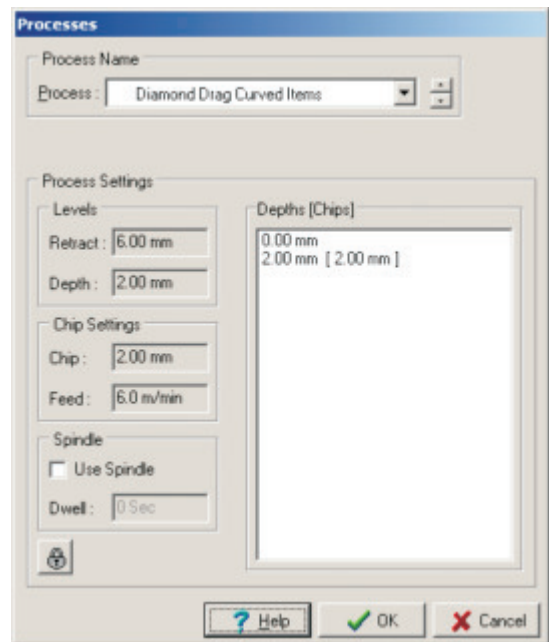

Figure 6
- 6 You are now ready to engrave your Tankard., Left Click On "Production" on the "Main Menu". The select "Engrave", you will now have the Processes Dialogue Box. on the screen, select Diamond Drag Curved Items, see Figure 6. Click On "OK" to send the job to your Universal-300 Engraving Machine. You will then get a Dialogue Box confirming that the job has been downloaded.